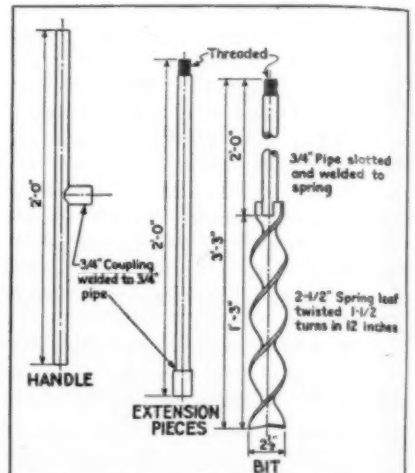

Fig. 4—Test hole auger has many labor and money saving uses
(13) A Test Hole Hand Earth Auger (See Fig. 4) has been developed, and this very simple device which is easy to make from salvage material is being used for the following purposes: